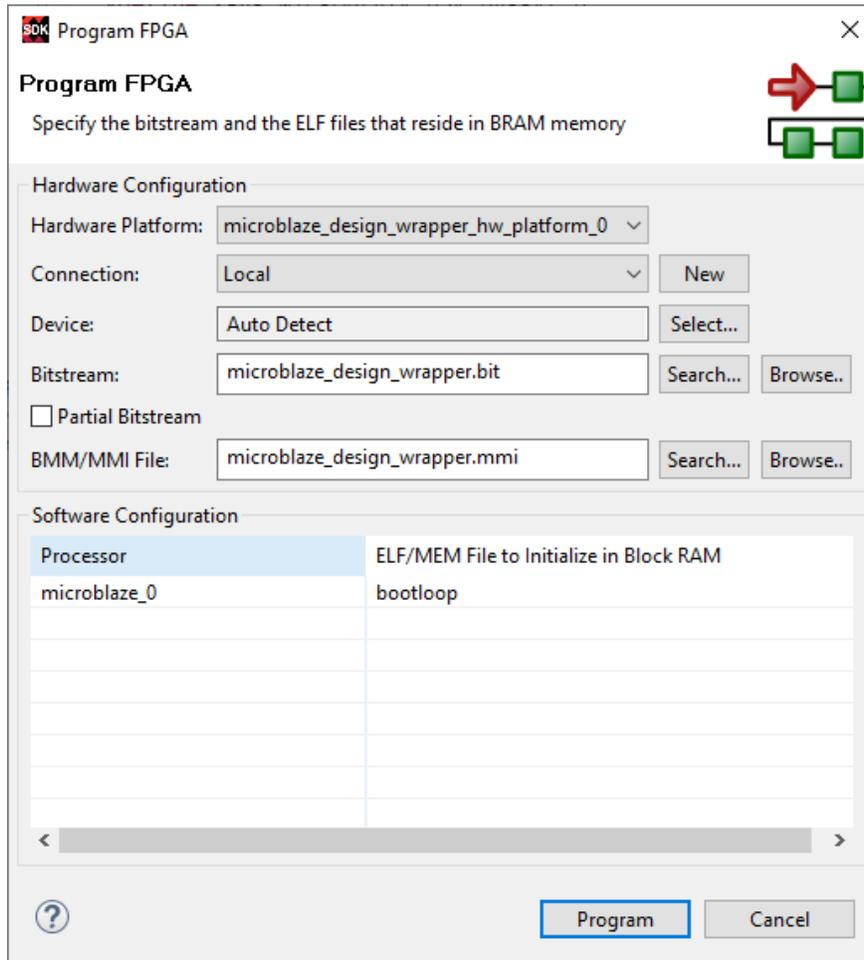

Figure 21: Building the project.
- Download the bitstream by selecting Xilinx Tools → Program FPGA from the *Menu Bar* in the SDK. The *Program FPGA* window will appear. The *Bitstream* field should already be populated with the correct bitstream file, as shown in Figure 21.